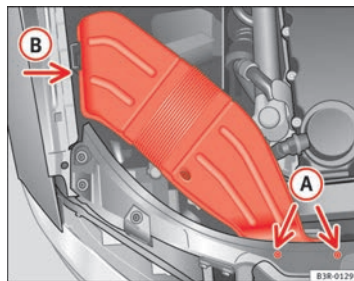

Fig. 188 Air duct on right side of vehicle
- Unscrew bolts **(A)** ⇒ fig. 188.